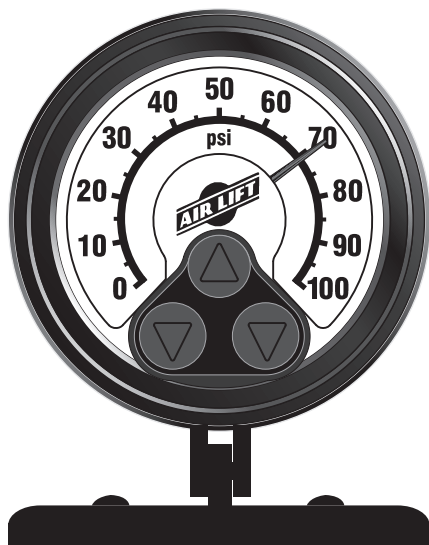

fig. 3
1. Install the gauge pod (figs. 3, 4 & 5). Select a convenient mounting location that has a sturdy rigid surface. The bottom edge of the dash on either side of the steering wheel is a good location. Attach the gauge pod to the selected location with the black self-tapping screws.